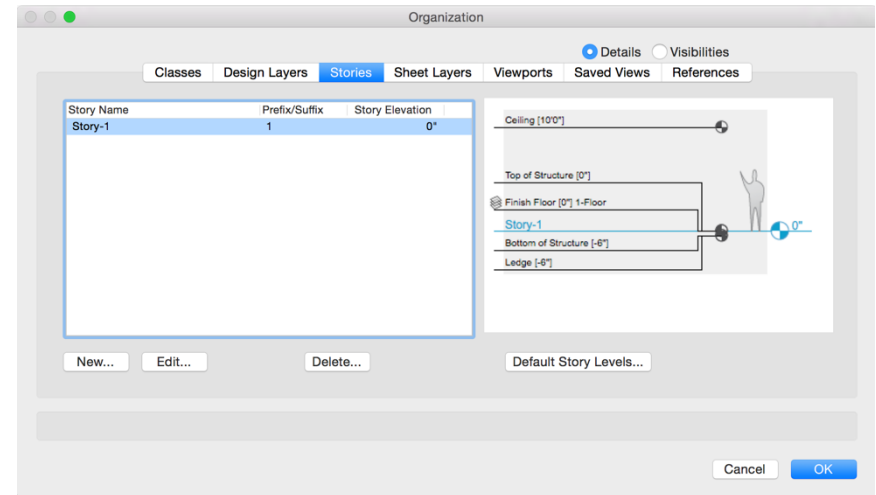

Fig. 8 Organization dialog reflecting selected levels and layers
Step 3 Click OK to accept the selections. The graphic on the right in the Organization dialog will populate reflecting the choices. (Fig. 8)